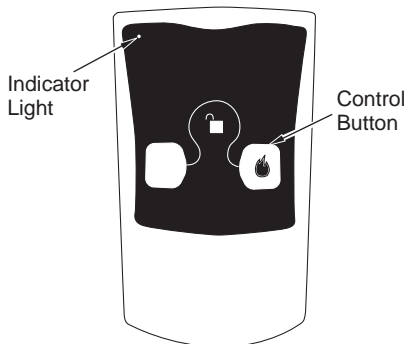

Figure 41 - On/Off Hand-Held Remote Control Unit HRC100
2. Press control button on hand-held remote to turn burner on. Press control button again to turn burner off (see Figure 41).